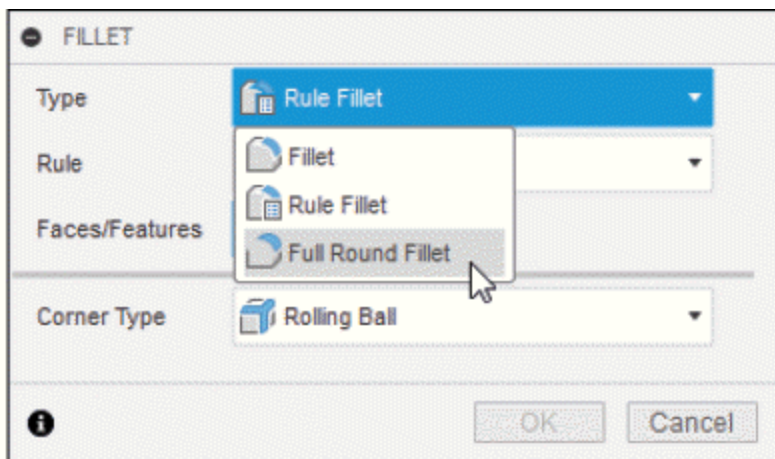
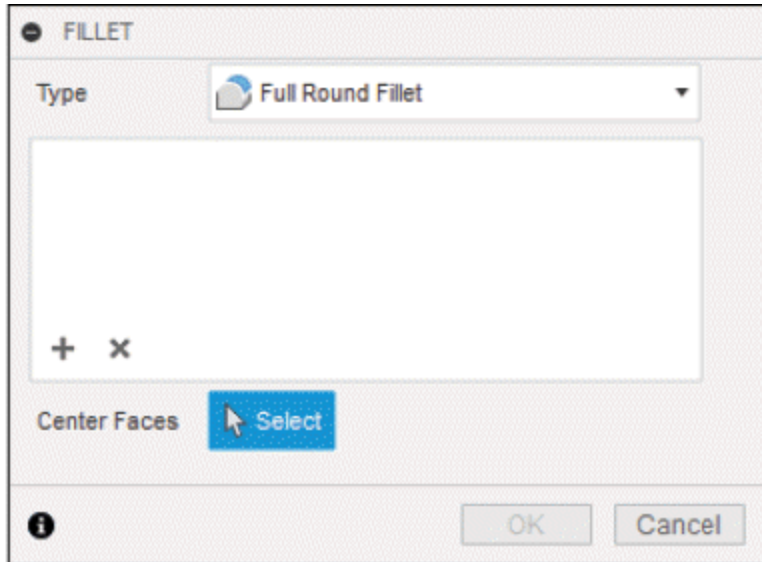

Figure-16. Full Round Fillet tool in FILLET dialog box
Figure-17. FILLET dialog box with full round fillet options
- Select **Full Round Fillet** option from **Type** drop-down in **Fillet** dialog box; refer to Figure-16. The **FILLET** dialog box with full round fillet options will be displayed; refer to Figure-17.